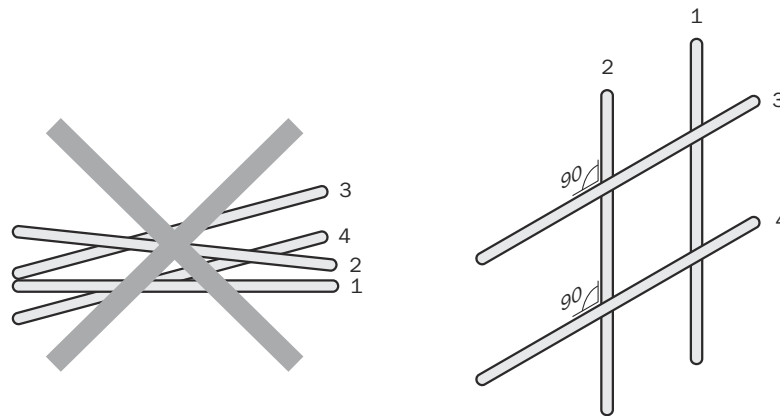

Figure 4: Cross cables at right angles
- ▶ Cables in groups 1, 2 and 3, 4 must be crossed at right angles (see figure 4).